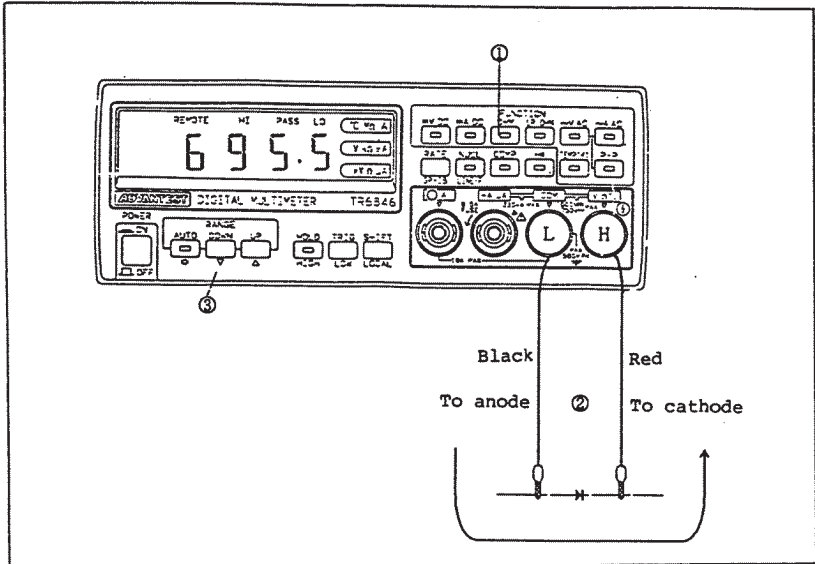

Figure 4-6 Diode Test
- Step ② Pass the current in the forward direction, and measure the forward voltage of the diode. The current flows from COM terminal to $V\Omega^{\circ}C$ terminal. Therefore, as shown below (Figure 4-6), connect the COM side input cable to the anode of the diode, and the $V\Omega^{\circ}C$ side input cable to the cathode.
- Step ③ Set the range by pressing **AUTO** or **DOWN** **UP** keys. Select the magnitude of measuring current from the values shown in Table 4-4. In this example, the 3 k Ω range is set, and the measuring current of 1 mA is used.
- Step ④ Record the measured result. Assume that the display is 695.5 Ω . (Figure 4-6) Since the displayed unit is ohm (Ω), this must be converted to mV value. This can be done by calculating as follows: